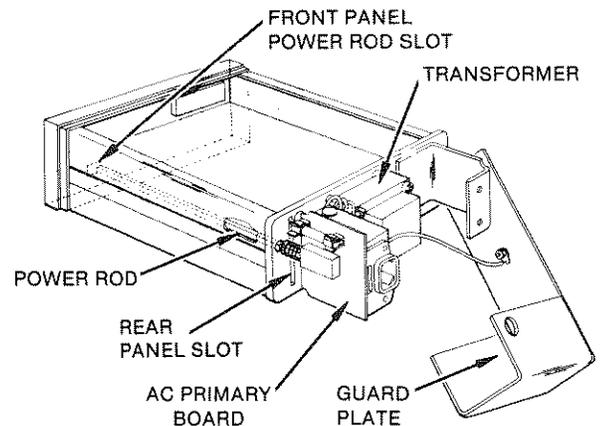
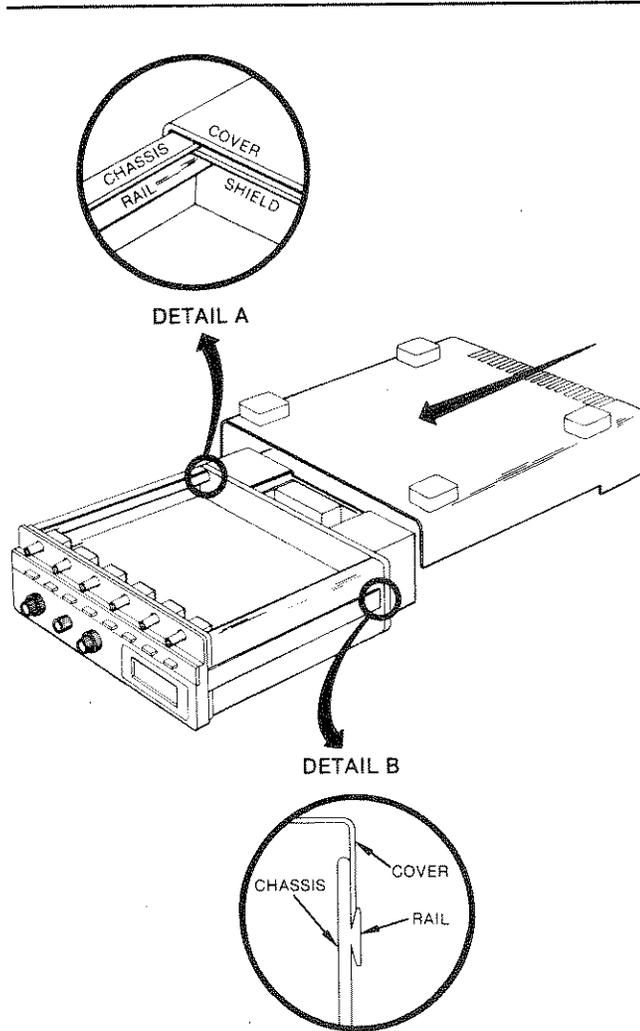

Figure 2-5. Rear Chassis Assembly
Figure 2-6. Top and Bottom Cover Installation
Refer to figure 2-5 for steps 1 thru 5 and figure 2-6 for steps 6 thru 8.
6. Turn the instrument upside down, position the bottom cover over the guard shield, and then slide the bottom cover forward approximately two inches while engaging the top cover and slides (see figure 2-6, detail A and detail B). Don't slide the cover on yet.